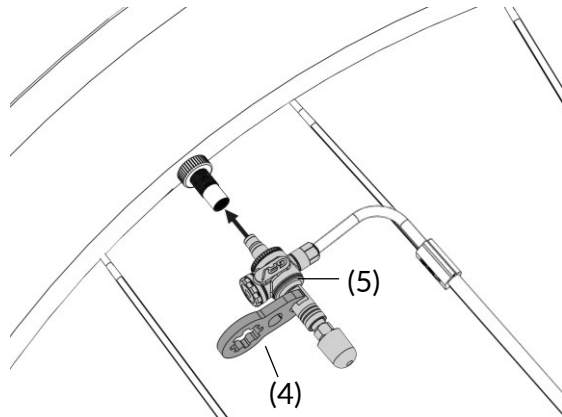

Figure 3: Install GRAVAA valve adapter + valve cap
4. Place the GRAVAA valve adapter (5) on the valve stem and place the GRAVAA valve tool (4) onto the GRAVAA valve adapter as shown in Figure 3.